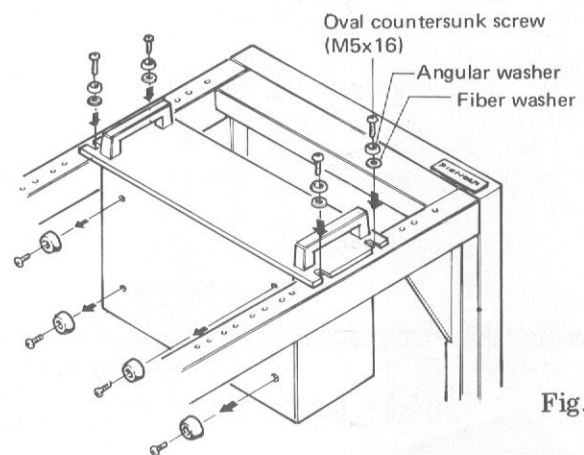

Fig. 4
1. Remove the rubber feet (4) from the tape deck, using the Phillips screwdriver (this is not necessary if you leave a gap between the components).
2. As shown in Fig. 4, lay the rack down with the mounting face pointing upward.